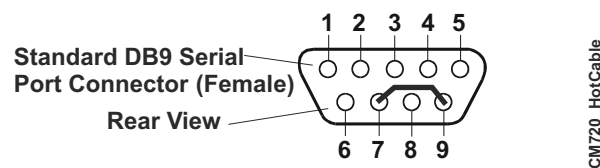

Figure 3-2. Serial Console Jumper
To convert a standard serial cable to a “Hot Cable”, short together the RTS (7) and RI (9) pins on the serial port DB9 connector as shown in Figure 3-2.